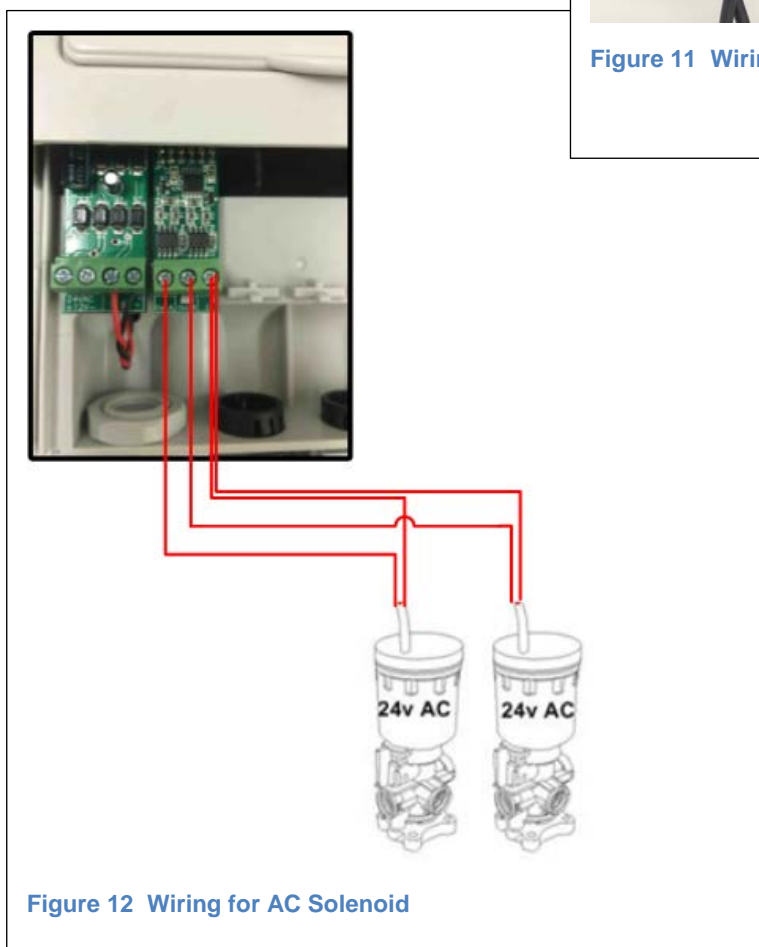

Figure 12 Wiring for AC Solenoid
AC models: The solenoid wires will be the same color. One wire from each solenoid should be attached to the common terminal (C), and the other wires from each solenoid connected to terminals Out A and Out B see Figure 12.